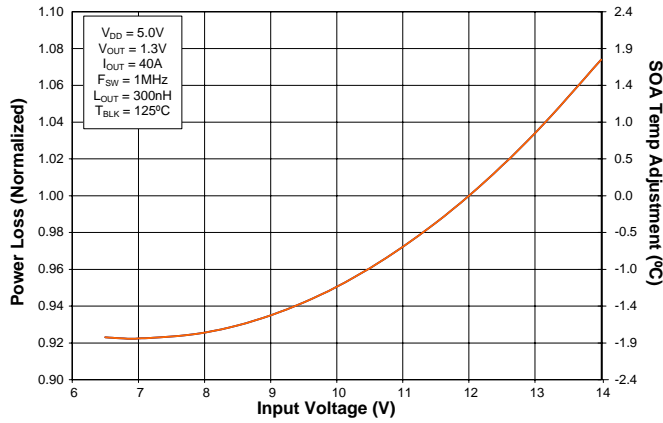

Figure 3 Normalized Power Loss vs. Input Voltage
| (Figure 3) | Normalized power loss for input voltage \approx 0.95 |
- (Figure 3) SOA temperature adjustment for input voltage $\approx -1.2^{\circ}\text{C}$